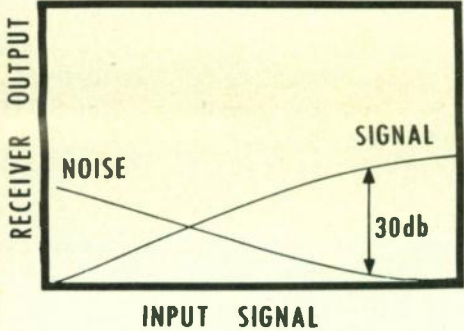

Fig. 33 Effect of Input Signal on Receiver Outputs
The graph in Fig. 33 shows the effect on the level of the noise and signal outputs of a receiver with respect to the input signal. Note that the noise decreases and the signal increases as the input signal increases. At some point, while the output signal is increasing and the noise is decreasing, the ratio between them will be
4. Switch the LEFT and RIGHT 400Hz OFF, and measure the ratio between the signal and the noise. A measured ratio of greater than 30db indicates excessive input signal. Reduce the settings of the MICROVOLT OUTPUT controls until the ratio equals 30db. A measured ratio of less than 30db indicates insufficient input signal. Increase the setting of the MICROVOLT OUTPUT controls until the ratio equals 30db. Refer to the graph in Fig. 33 to understand the input signals affect on output signal and noise.